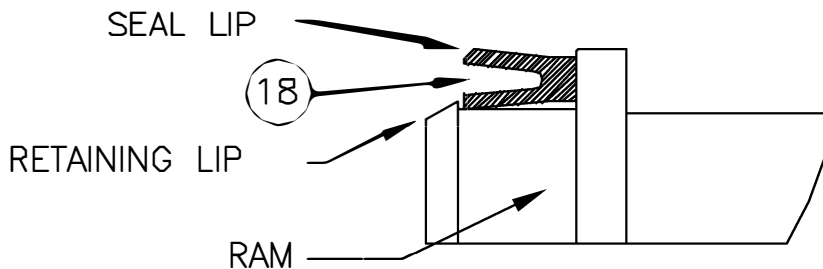

FIGURE 11
2. Apply a small amount of grease to the interior (I.D.) section of the seal 18 (see Figure 11). Slide the seal over the retaining lip of ram with the lip end of the seal away from the ram (see Figure 11).
5. Apply a small amount of grease to the lip sections (O.D.) of the seal. Carefully insert the ram into the cylinder (being careful not to damage the lip surfaces of the seal 18 (see Figure 11).